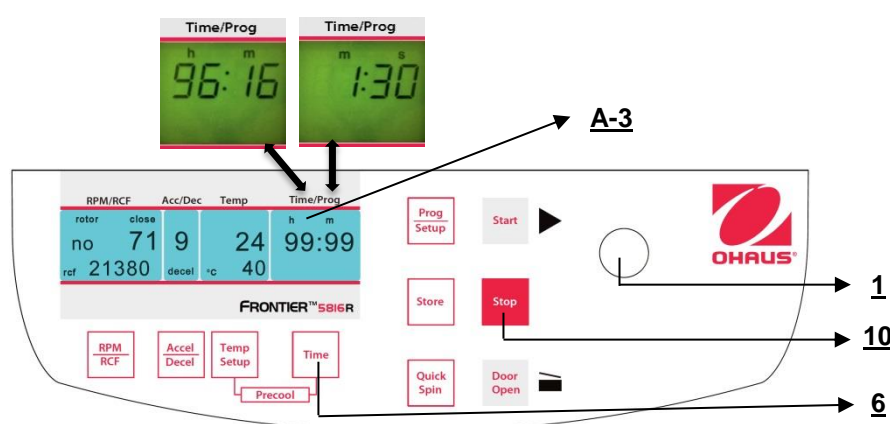

Figure. 17
3. The continuous run "**cont**", which can be interrupted by the key "**Stop**" (10) (refer to figure 17).
The display always shows the remaining running time. (See figure 17)